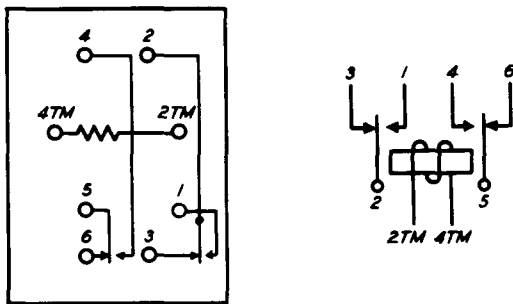

Fig. 84 - Winding and Spring Terminal Arrangement (terminal side — KS-5350 and KS-5451 Relays Having Four Horizontal Rows of Terminals
2.88 The contacts in any vertical row of terminals number from the top down beginning with 1 in the right row of terminals. Where the top terminal in this row has a letter designation in accordance with 2.89, 2.90, and 2.91, the number 1 is applied to the terminal directly below it. (See Fig. 84.)
2.91 Where the relay has either four or six horizontal rows of terminals the upper middle row of terminals is designated by the letters TM preceded by the same number as the nearest terminal above. (See Fig. 84 and 88.)